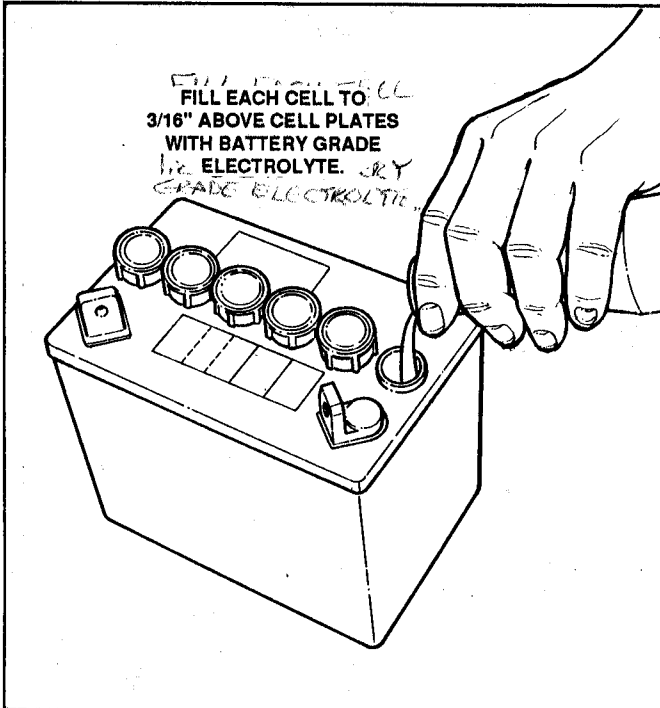

FIGURE 6.11
4. Wearing approved rubber gloves and face shield, fill each CELL of the Battery with $1.265 \pm .05$ specific gravity, battery grade electrolyte (acid). Fill each CELL to $3/16"$ above CELL PLATES or between full lines on clear batteries. See Figure 6.11.
5. After filling, allow the BATTERY to set for at least thirty (30) minutes. Check electrolyte (acid) level and refill CELLS to $3/16"$ above CELL PLATES if necessary. Refer to Figure 6.11.
6. After achieving proper fill level. SLOW CHARGE the Battery at one (1) amp for ten (10) hours, or three (3) amps for four (4) hours.